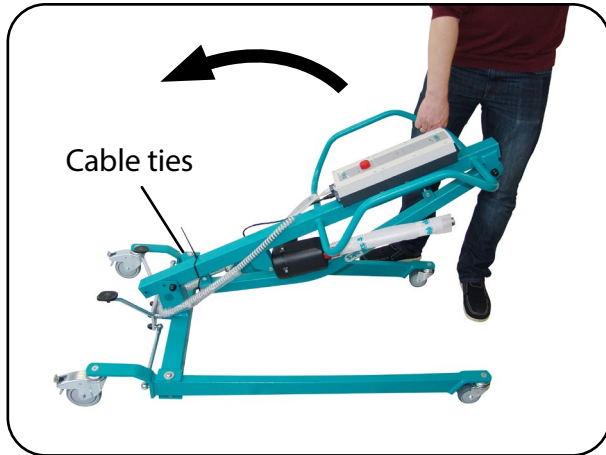
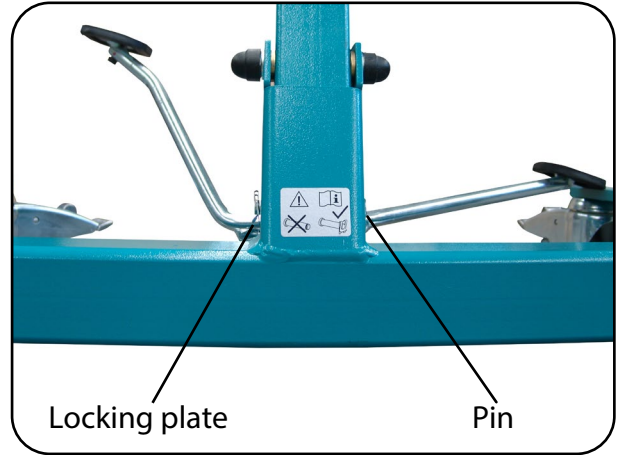

Fig. 6.2.03 – Setting up the stand mast
Fig. 6.2.04 - Stand mast holder
5. Set the stand mast upright (Fig. 6.2.03) and fully align the hole on the stand mast with the hole on the stand mast holder. Then secure the stand mast again using the pin and the locking plate (Fig. 6.2.04).
6. Remove the cable tie that holds the lifting arm in place on the stand mast as a transport lock (Fig. 6.2.03).